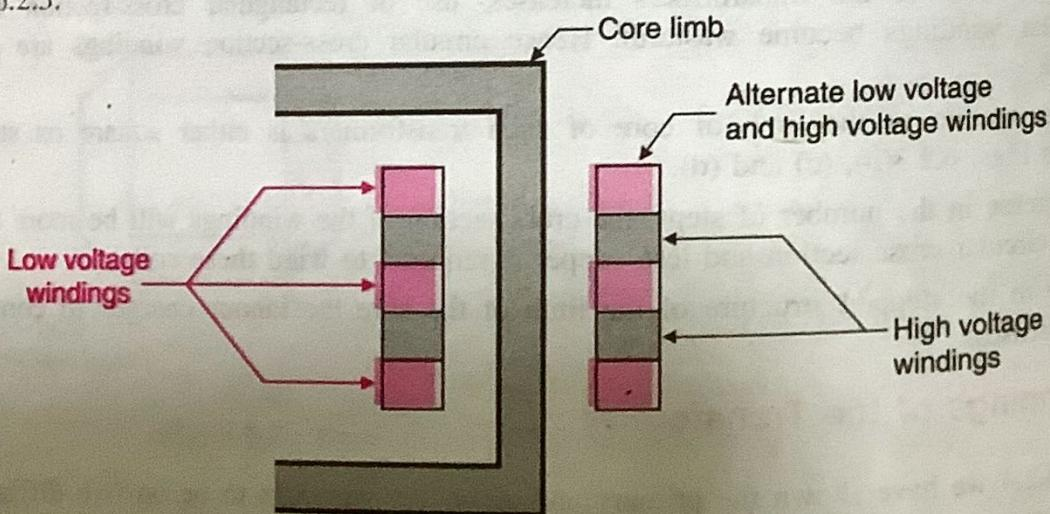

Fig. 6.2.5 : Sandwich type winding
- The other type of windings is called as the **sandwiched type winding** which is shown in Fig. 6.2.5.
- Here the high voltage and low voltage windings are divided into a number of small coils and then these small windings are interleaved as shown in Fig. 6.2.5.